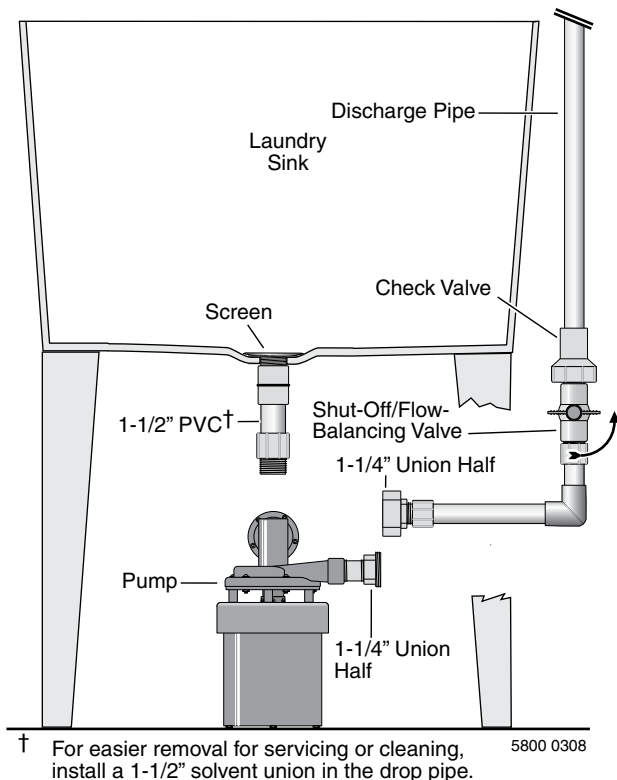

Figure 3: Pump Removal.
4. Disconnect the union, unscrew the pump from the sink tail piece, lower the pump to the floor, and slide it out from under the sink (see Figure 3).